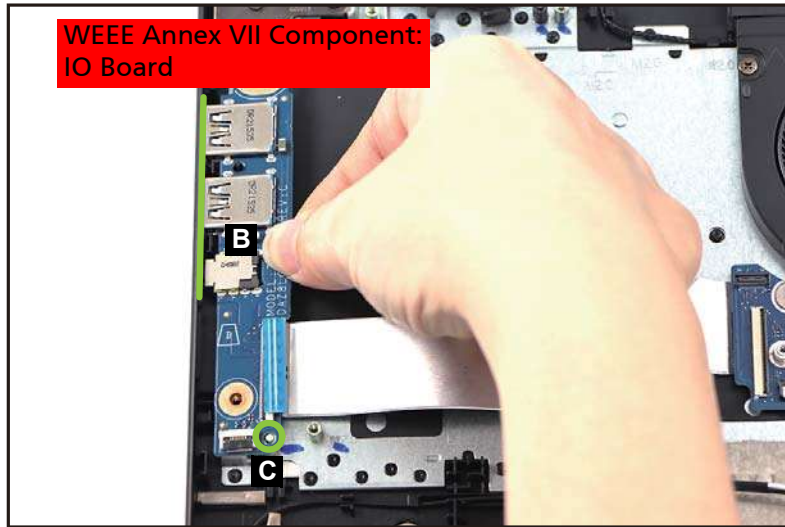

Figure 3-47. IO Board Removal
3. Release the IO board (B) from the I/O connectors slots and guide pin (C) on the top assembly (Figure 3-47). Then remove the IO board.